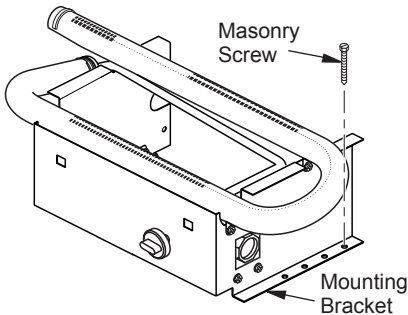

Figure 12 - Attaching Base to Fireplace Floor
7. Mark screw locations through one hole on each side of the mounting bracket (see Figure 12, page 13). If installing in a brick-bottom fireplace, mark screw locations in mortar joint of bricks.